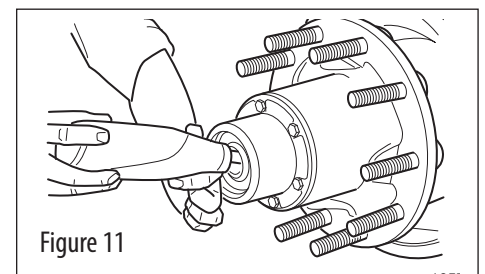

Figure 11
a. Fill the hub through the hubcap center hole to the "oil level" mark on the face of the cap (see Figure 11).